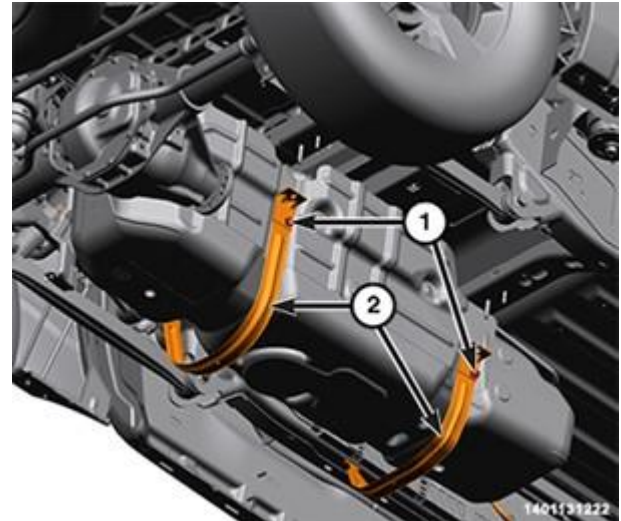

Figure 87 – Fuel Tank Straps
169. Install the fuel tank straps (2) and tighten the nuts (1) to 54 N·m (40 ft. lbs.) (Figure 87).